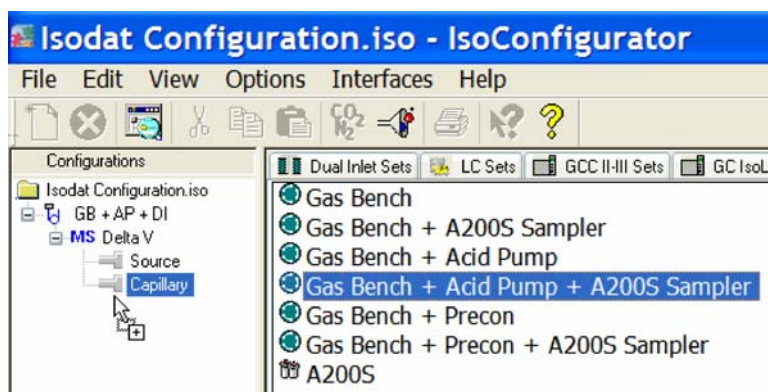

Figure 3-50. Dragging GasBench set to capillary port
- Click on the GasBench Sets tab. Among the GasBench sets, choose for example GasBench + Acid Pump + A200S Sampler as the hardware set. Drag and drop it to the Capillary connection port of the IRMS. See Figure 3-50.